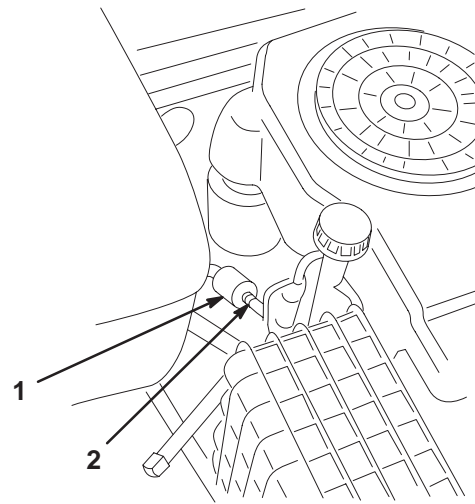

Figure 29
3. Squeeze the ends of the hose clamps together and slide them away from the filter (Fig. 29).
5. Install a new filter and move the hose clamps close to the filter (Fig. 29).